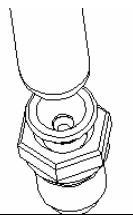

Figure 1: Air Gun Nozzle for Filling Air in the Air Valve. Keep it pressed for Air inflation.
3. To Grip the Core inflate the Chuck: Press the Air Valve (NRV) by Air gun nozzle, shown in figure 1. The press the Air Gun lever to the extent that the 5 – 6 Bar Air Pressure is developed. For good gripping, apply the air pressure for 45 seconds (ask operator to count 1 – 50).